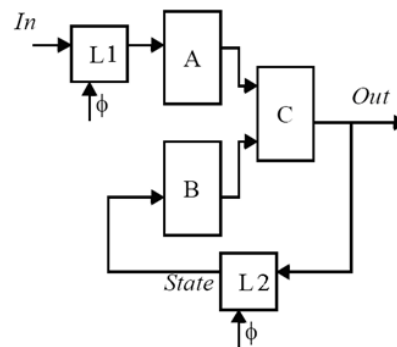

Fig. 9
6. Consider the simple state machine shown in Figure 9. A, B, and C represent combinational logic blocks with the following properties: [20 pts]